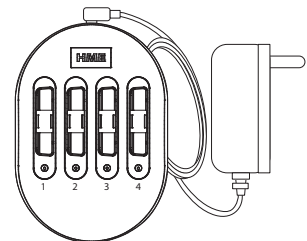

Fig. 1.4
- **Battery Charger:** This unit allows you to charge up to four headset batteries at a time and also provides feedback on the current condition of each battery docked. Charger activity can be monitored via the Base Station or the charger can be used independently as a stand-alone charger. (Fig. 1.4.)